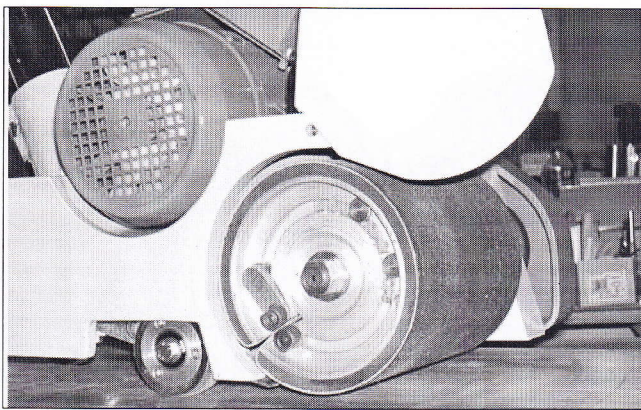

Fig. 18
- Raise the lid covering the drum (Fig. 18).